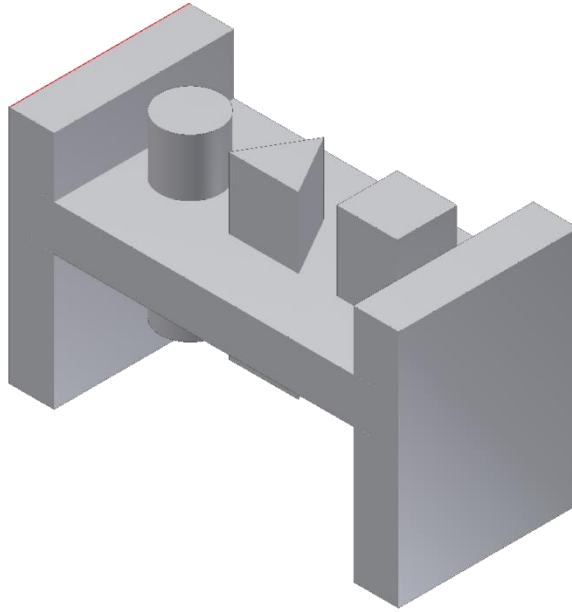

Figure 10. Pegboard Toy with triangular peg addition.
- See Figure 10 for what your Pegboard Toy with the triangular peg should look like when complete.